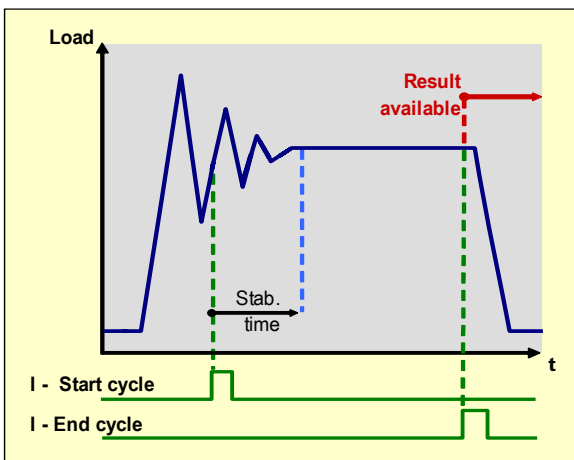

Fig. 7
- by an input assigned to 'start checkweigher cycle' (Fig. 7 & 8). Caution, only input 2 is operational if both inputs are assigned to the 'start checkweigher cycle' function.